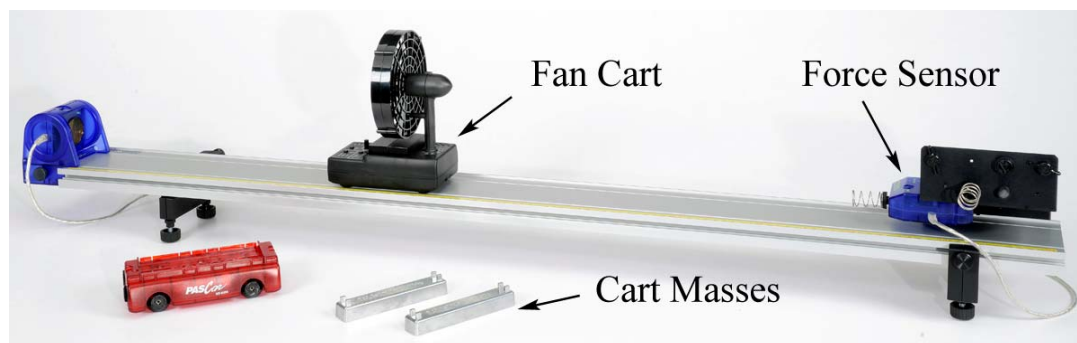

Figure 1: Measuring Acceleration of Fan Cart using Motion Sensor
1. Set up the track as shown in Figure 1 with the Motion Sensor on the end of the track that is the zero point for the yellow rule.